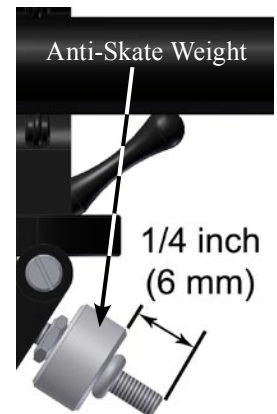

Figure 12B
- Verify the correct setting of the Anti-Skate for the McIntosh Cartridge by measuring the distance as indicated in figure 12B. If the distance is not correct, first slide the "O" Ring away from the Anti-Skate Weight. Rotate the Anti-Skate Weight to set the correct distance and then slide the "O" Ring back up the Anti-Skate Weight.